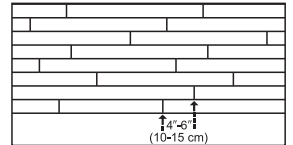

Figure 4
- Be attentive to staggering the ends of the boards at least 4"-6" (10-15 cm) when possible, in adjacent rows (Figure 4). This will help ensure a more favorable overall appearance of the floor.
- End-joints of adjacent rows should be staggered a minimum of 4"-6" (10-15 cm) when possible, to ensure a more favorable overall appearance (Figure 4).
- Check for a tight fit against all edges and ends of each plank. End-joints of adjacent rows should be staggered 4"-6" (10-15 cm) when possible, to ensure a more favorable overall appearance (Figure 4).